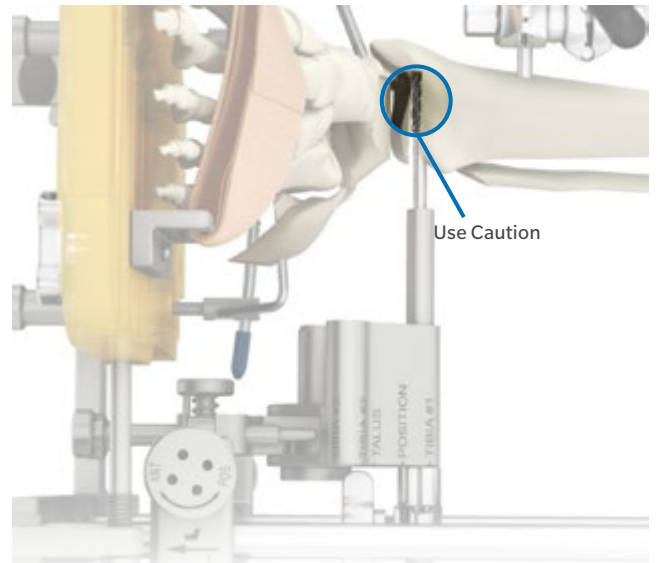

Fig. 59
- As the Bur approaches the medial side of the tibia, use fluoroscopy to avoid compromising the bony support for the medial malleolus (Fig. 59).